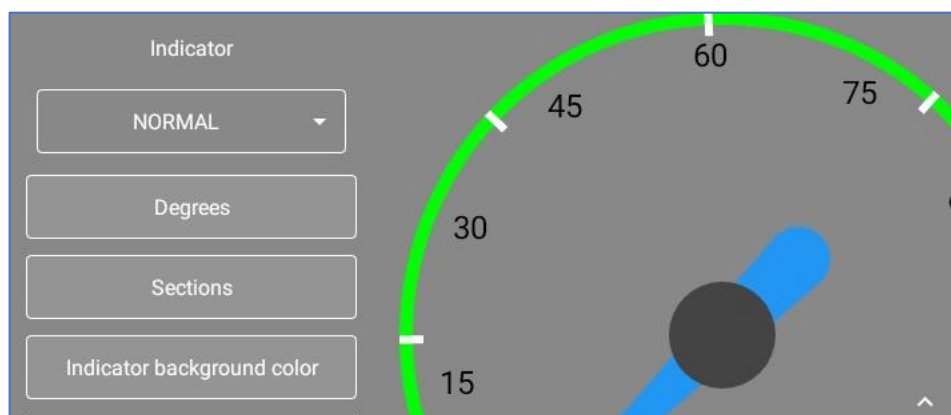

fig.4.7. Group of settings “Indicator”
- **Group of settings “Indicator”** is used to set up the indicator appearance (fig.4.7).